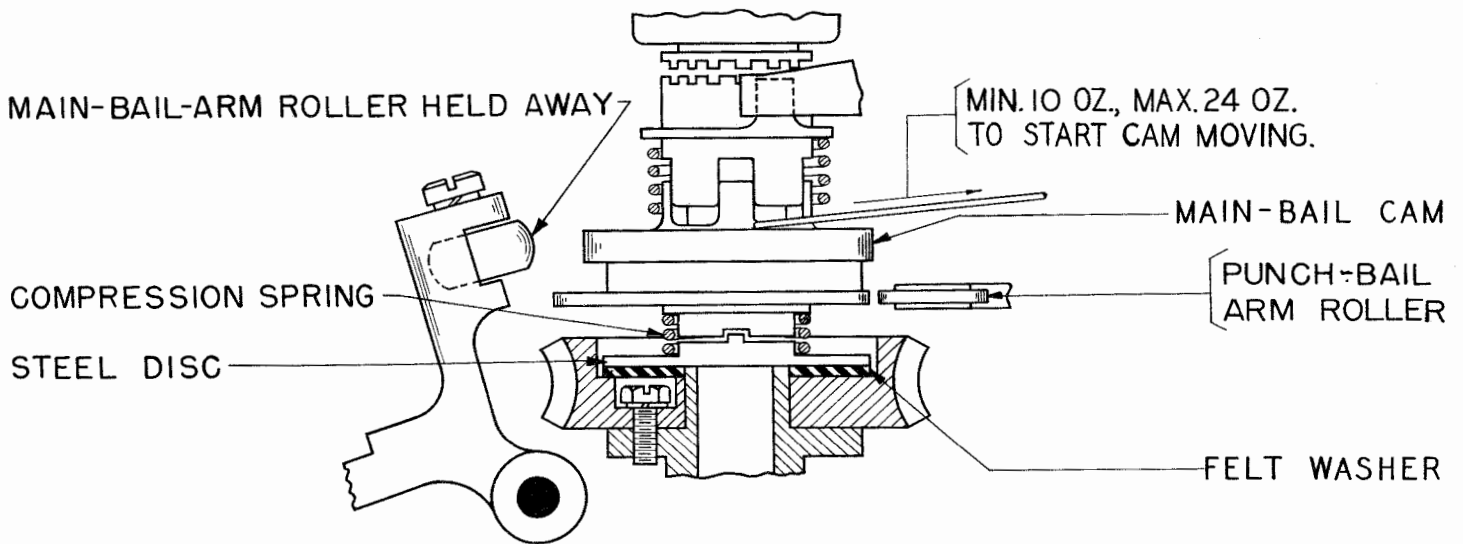

Figure 74
2.143 Punch-bail-arm Spring: It shall require minimum 6 pounds, maximum 7 pounds to start the punch-bail-arm roller moving away from its cam when the roller is resting on the low part of the cam. See Figure 74.
2.150 Mainbail-cam Clutch-torque should be measured as follows after the motor has been running at least 10 minutes with the mainbail cam remaining stationary. It shall require a pull as indicated in Figure 74 to start the mainbail cam moving opposite to its normal direction of rotation.